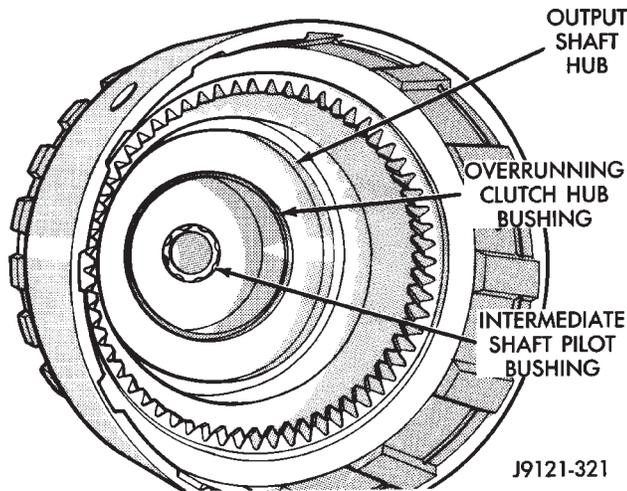

Fig. 235 Output Shaft Pilot Bushing
- (1) Soak direct clutch and overdrive clutch discs in Mopar® ATF Plus 3, type 7176, transmission fluid. Allow discs to soak for 10-20 minutes.
- (2) Install new pilot bushing and clutch hub bushing in output shaft if necessary (Fig. 235). Lubricate bushings with petroleum jelly, or transmission fluid.